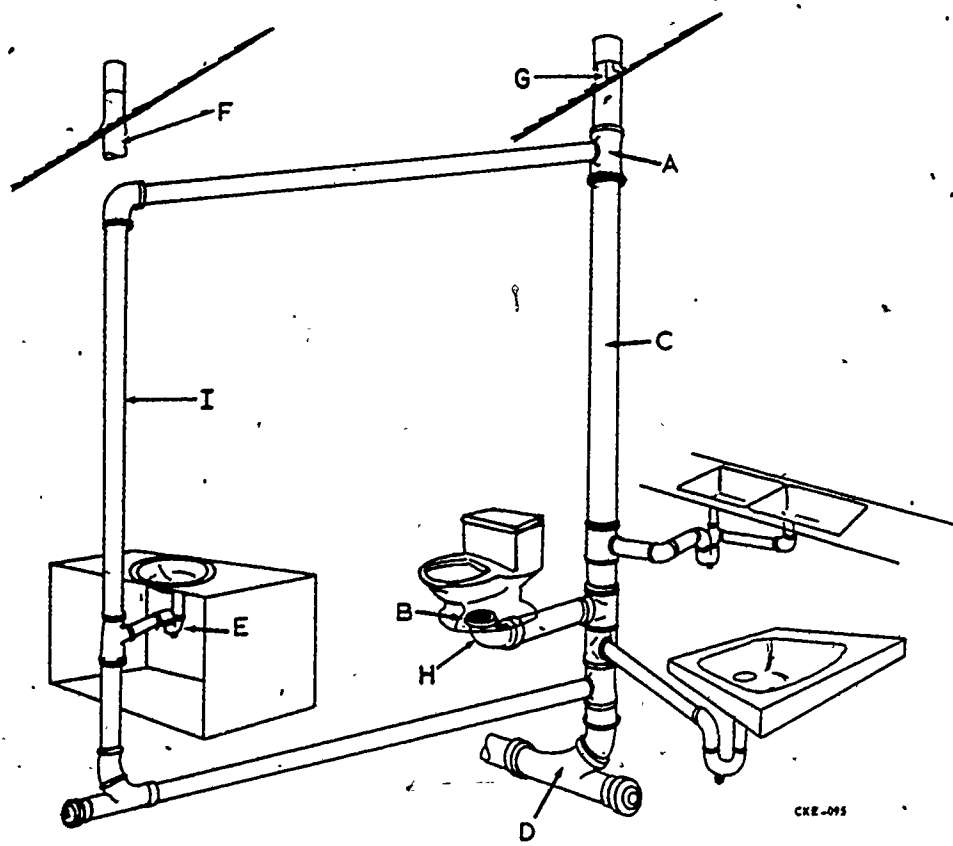

Figure 14. Vent and Drain System for a Water Closet
1. Name each lettered component in the vent and drain system illustrated in figure 14.